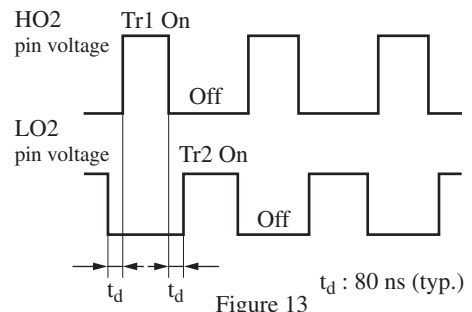

Figure 13
(1) PWM output voltage
- The PWM output voltage is supplied from HO2 pin (pin 22) and LO2 pin (pin 19) to drive FET Tr1 and Tr2 respectively. Both pin voltages are as shown in figure 13.
(2) Quiescent period
- The PMW output voltages given from HO2 pin (pin 22) and LO2 pin (pin 19) are provided with the quiescent period t_d in which both become off state as shown in figure 13. This is provided for the prevention of simultaneous turning On of Tr1 and Tr2.